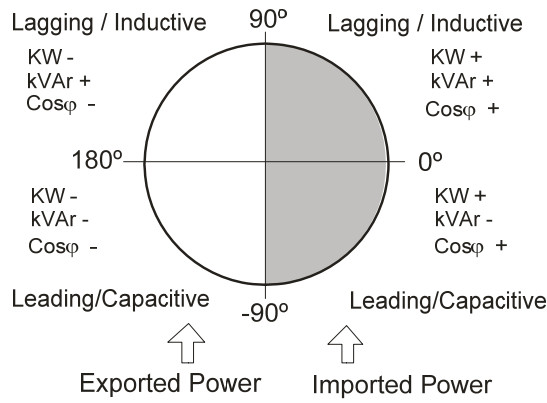

Fig. 2.1.- Power signs in four quadrants measurements
- Four quadrants control (see fig.2.1), display of the connected stages, of $\cos \varphi$ and active and reactive power signs (inductive \sim or capacitive \dashv)